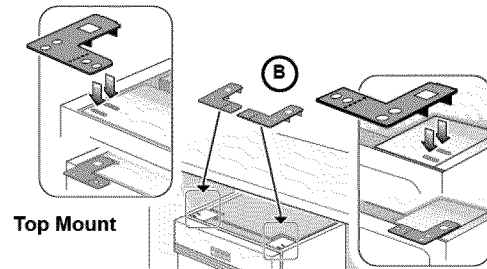

Figure 16
**Top Mount** is used for countertops made of wood or other materials that can be easily drilled. Orient the mounting brackets as shown in **Figure 16**, and position the two small tabs on the mounting brackets over the two slots on the dishwasher's front corners. Push the mounting brackets down.